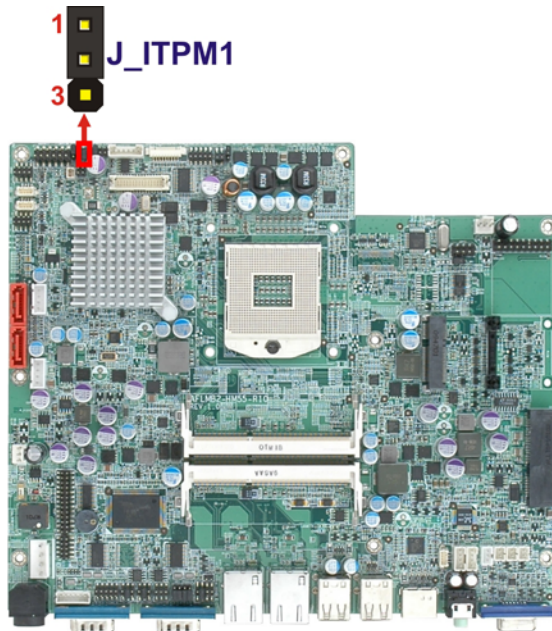

Figure 3-13: iTPM Jumper Location
- Jumper Location:** See Figure 3-13
The iTPM jumper location is shown in **Figure 3-13**.